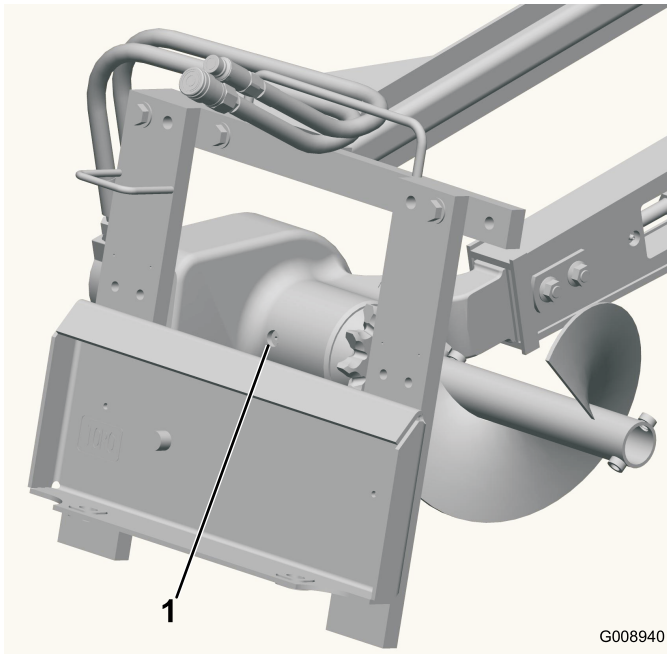

Figure 10
3. Clean the area around the bearing case fill hole plug (Figure 10).
4. Remove the plug from the bearing case fill hole (Figure 10).
1. Clean the area around the bearing case fill hole plug (Figure 10).
2. Remove the plug from the bearing case fill hole (Figure 10).